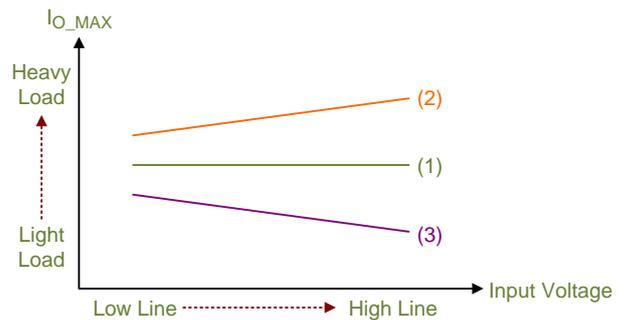

Figure 6. Output Current Limits for Over-Current Protection
To start with, $R_{PDC} = 470\Omega$ and $C_{RC} = 100pF$ can be used as reasonable initial setting for line compensation. In Figure 6, curve (1) is an ideal output current limit curve for over-current protection, which remains constant from low line to high line input voltages. If the output current limit curve is like curve (2), the resistance R_{PDC} should be increased. However, if the output current limit curve is like curve (3), the capacitance C_{RC} should be increased. The output current limit I_{O_MAX} under different line voltages can be optimized by adjusting the propagation delay resistor (R_{PDC}) or the propagation delay capacitor (C_{RC}) to achieve accurate over-current protection.